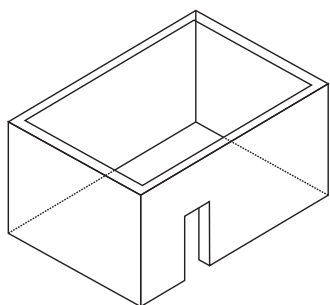

FIGURE F1 - OUTDOOR AREA - EXAMPLE 1
- An enclosure with walls on all sides, but at least one permanent opening at ground level and no overhead cover (Figure F1).